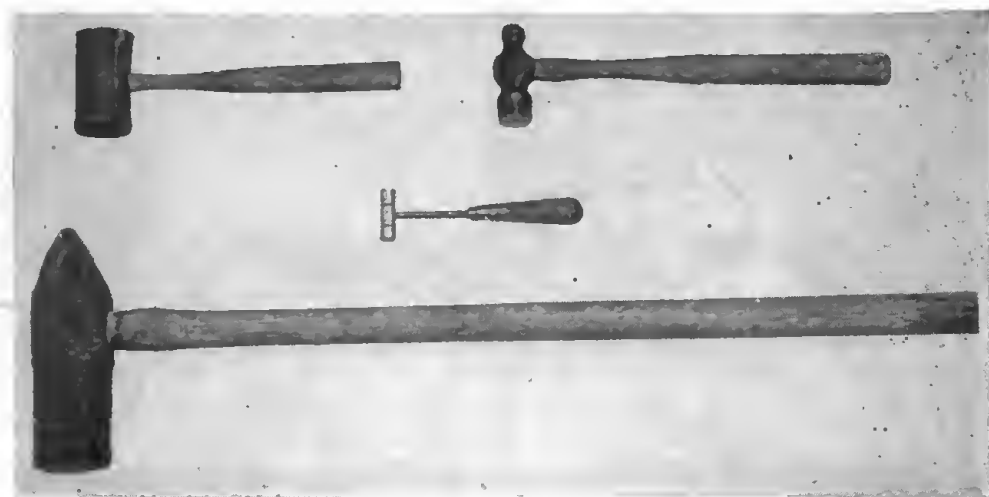

Figure 18. Hammers.
a. TYPES. Hammers used by airplane mechanics are classified as ball-peen, brass, mallet, plastic, and sledge (striking hammer). (See fig. 18.)